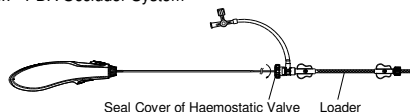

Figure 6. Illustration of clockwise screwing the seal cover of haemostatic valve
- Twist the seal cover of the haemostatic valve to suitable degree (Refer to **Figure 6**), and then repeatedly push and pull to make sure the tension is appropriate.